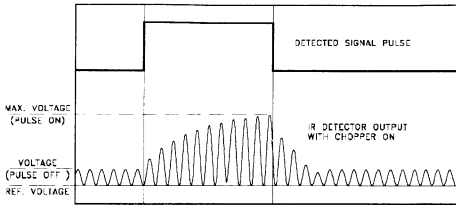

Figure 1: Example of oscilloscope output
important to measure the IR signal at the end of the application pulse. To achieve this, the oscilloscope should be triggered from the pulsed signal. Because the pulsed signal and the IR signal are not synchronized, the IR signal will constantly be moving across the oscilloscope screen. By displaying the detected application pulse on the oscilloscope as a reference, it still should be possible to read the peak to peak IR signal at the end of the pulsed signal. This will represent the maximum junction temperature. Figure 1 shows an example of an infrared (IR) output on an oscilloscope display. In this example, the pulse length is long compared to the period of the chopper.